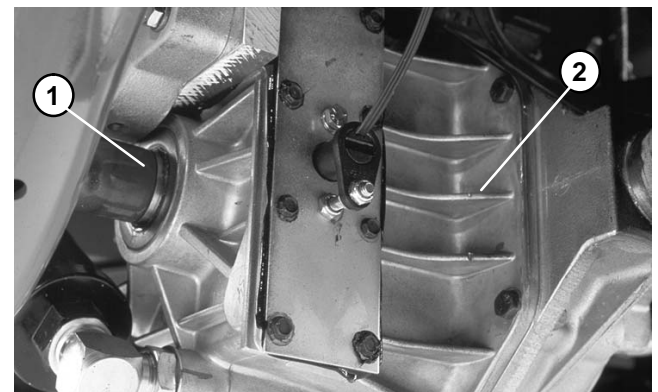

Figure 40
3. Start engine. Verify pinion shaft or traction shaft (4WD units) speed (RPM) with phototac. Check corresponding speed on the speedometer (Fig. 40 and 41)